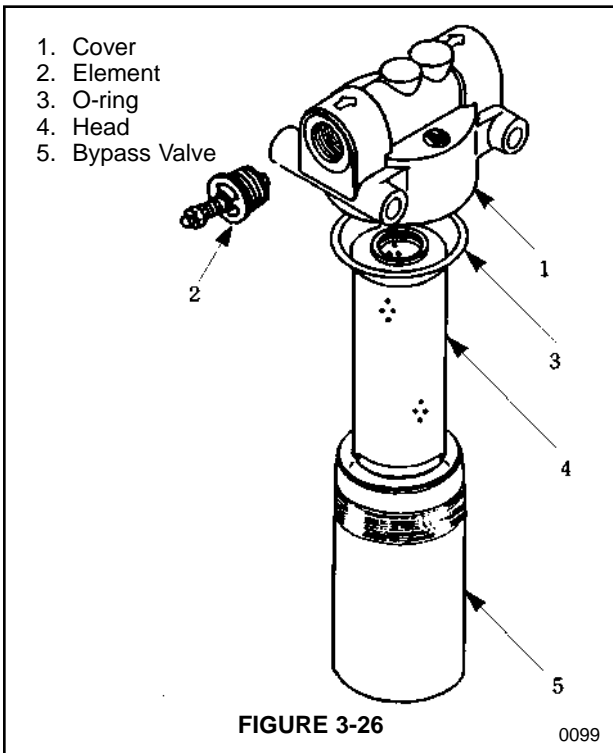

FIGURE 3-26
1. Unthread the element cover (1, Figure 3-26). The cover is filled with oil. Dispose of the oil.
2. Remove the O-ring (3, Figure 3-26) and the filter element (2).
3. Use a non flammable, non-toxic solvent to clean out the cover (1).
4. Insert a new filter element (2) into the cover (1). Install a new O-ring (3).
5. Thread the cover (1) onto the filter head (4).